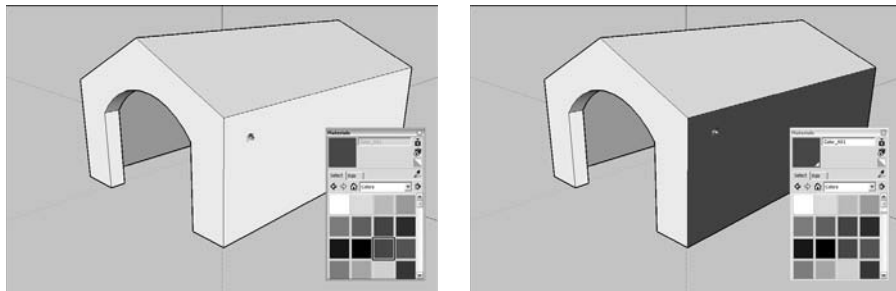

Figure 3-12:
- 4. Paint the rest of the faces you can see. (Refer to Figure 3-12.)**